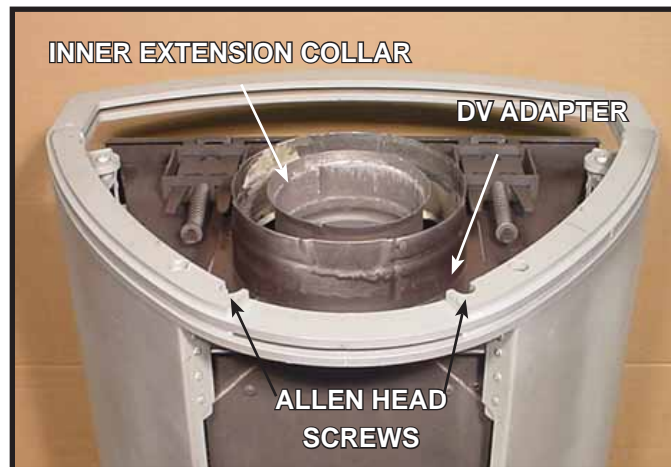

Figure 9.7
4. Remove the inner extension collar (Shown in **Figure 9.7**) and set aside.
5. Remove the four screws from the DV adapter collar (**Figure 9.7**). Set aside DV adapter collar and screws.